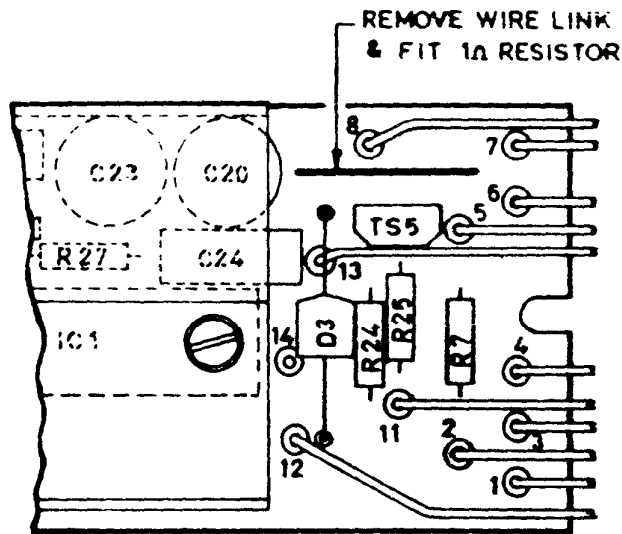

Figure 3-7 U7 Card Link/Resistor Location
- (1) Delete 3.4.3.1 step d. and substitute:
- (2) Delete 3.4.3.1 steps u. through v. and substitute:
- u. Refer to figure 3-7 and replace link with 1 ohm wire wound resistor R1.